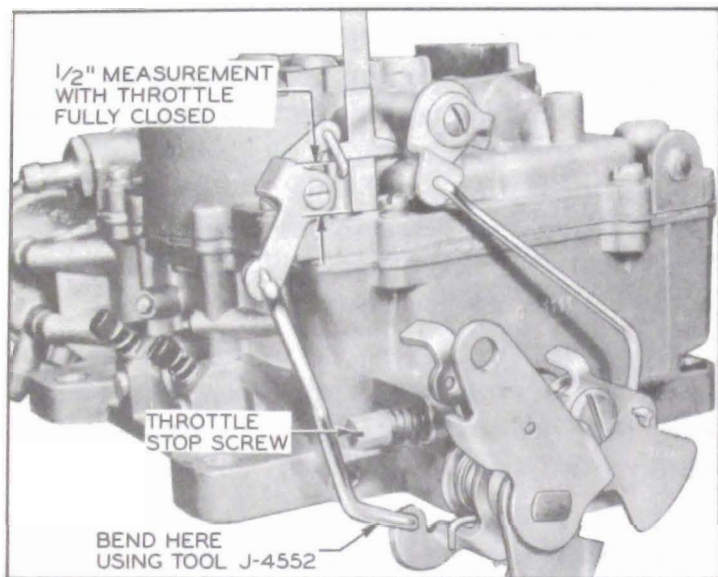

Figure 3-54—Pump Adjustment
20. *Adjust Pump.* Push fast idle cam aside and back out throttle stop screw until throttle valves seat in throttle bores. Measure from air horn to top of plunger shaft with scale. Bend pump rod at lower angle as required to obtain  $\frac{1}{2}$ " measurement using Tool J-4552. See figure 3-54. Turn throttle stop screw in (from fully closed throttle position)  $\frac{1}{2}$  turn which should provide an initial idle adjustment.